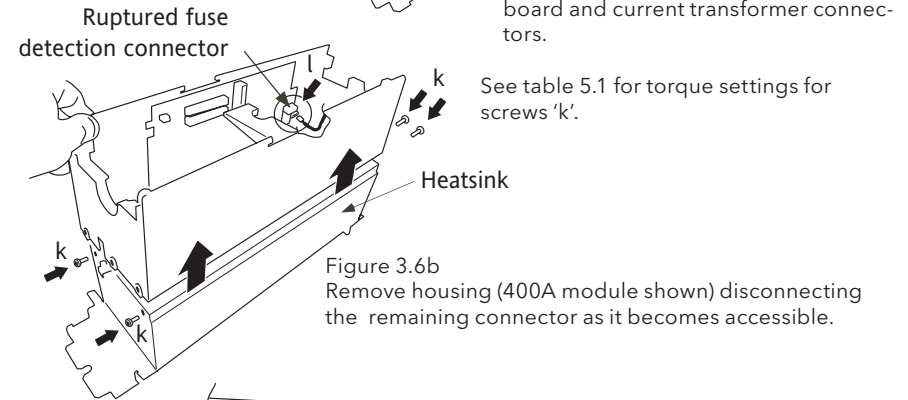

Figure 3.6b
4. Undo the housing retaining screws ('k' in figure 3.6b). (The figure shows a 400A unit; other units are similar, but have only two securing screws).
5. Lift the housing away from the chassis, disconnecting the fuse rupture detector connector ('l' in figure 3.6b) as it becomes accessible.